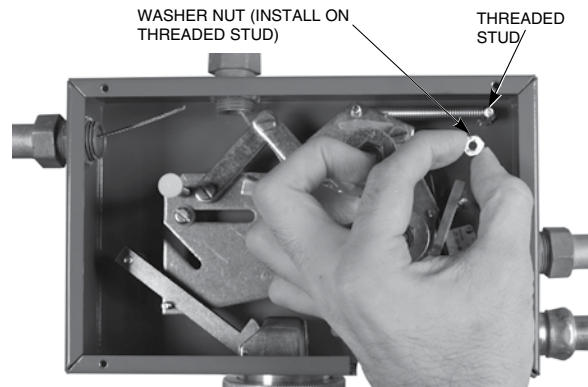

FIGURE 26
6. Once the spring is in place install the new washer nut (Part No. 551220), supplied in the spring plate assembly kit, to the threaded stud and snug, using an appropriately sized nut driver or socket wrench, to secure. See Figure 38. When installing the washer nut, **make sure the washer on the nut is facing toward the spring.** See Figure 26.